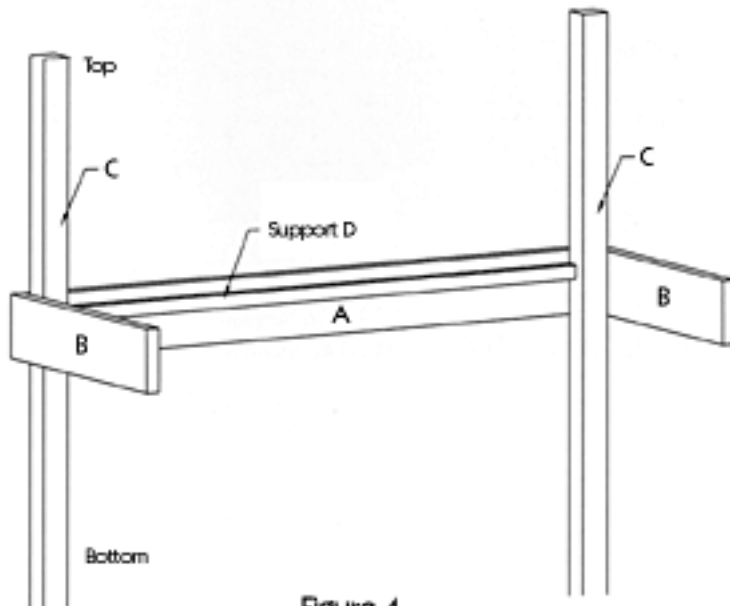

Figure 4
Cut two Support Trims (D) from 1 x 1 pine x 32-3/4" long. Cut eight Shelf Boards (E) from 1 x 4 pine x 13-1/2" long. Place the Support Trims (D) inside the Long Sides (A), of the bottom rectangle, 3/4" from the top edge of the Long Sides (A), as shown in figure 4.